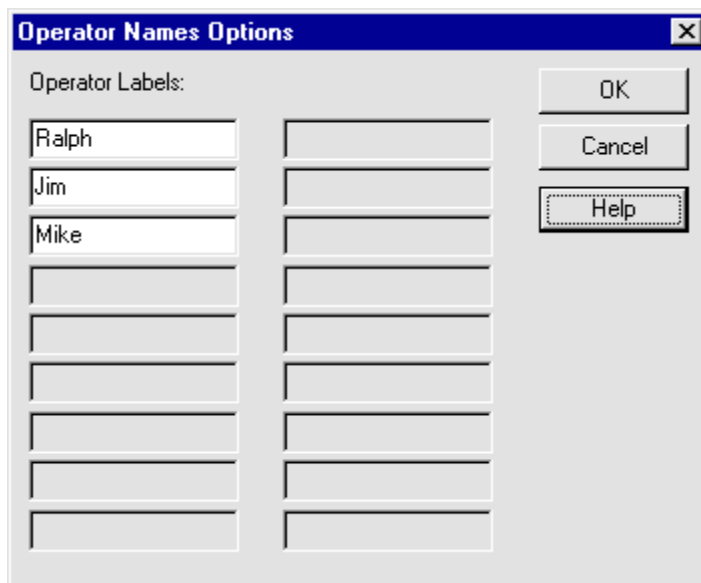

Figure 3-2. Completed Operator Names Options Dialog Box
4. Complete the dialog box so it looks like the one shown in Figure 3-2.